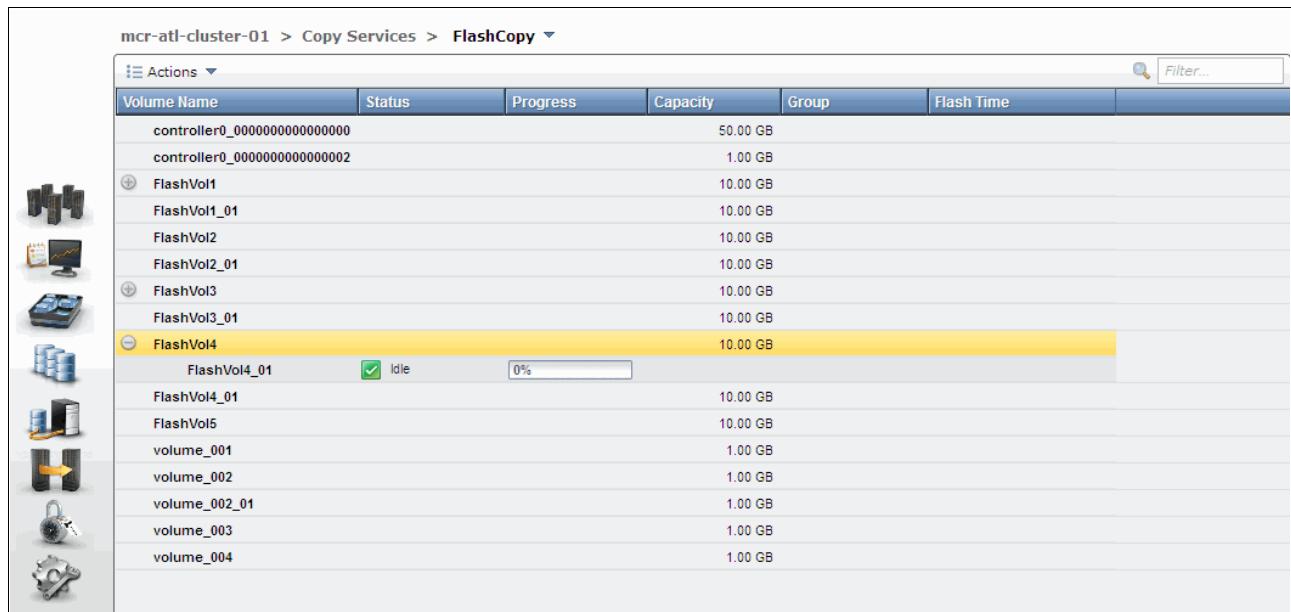
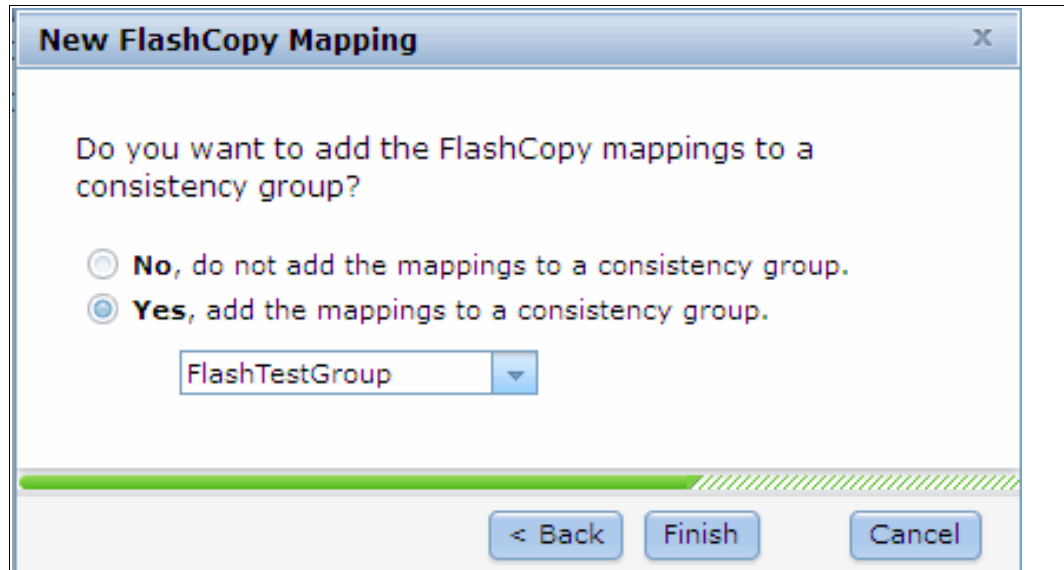

Figure 10-24 New FlashCopy mapping is created with a new target
Figure 10-29 Select a consistency group to add the FlashCopy mapping
- Close the window to see the FlashCopy mapping that is created on your volume with a new target, as shown in Figure 10-24. The status of the newly created FlashCopy mapping is Idle; it can be started, as described in “Starting a FlashCopy mapping” on page 477.
- You can now add the FlashCopy mapping to a consistency group (if necessary), as shown in Figure 10-29. Selecting **Yes** shows a drop-down menu from which you can select a consistency group. Click **Finish** and the FlashCopy mapping is created with the status of Idle, as shown in Figure 10-24 on page 473.